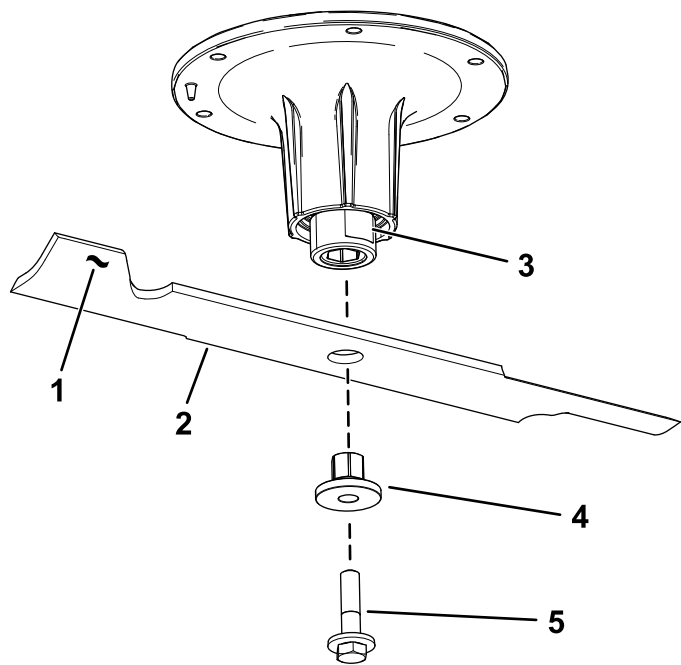

Figure 101
2. Remove the blade bolt, bushing, and blade from the spindle shaft (Figure 101).